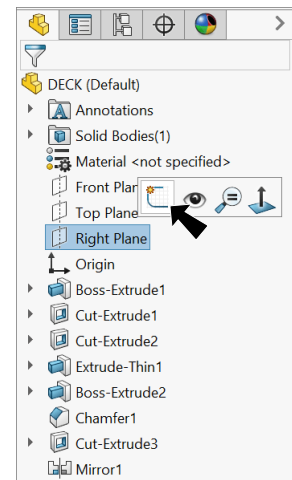

Fig. 56
- Step 1. Click **Right Plane**  in the Feature Manager and click **Sketch**  on the context toolbar, **Fig. 56**.